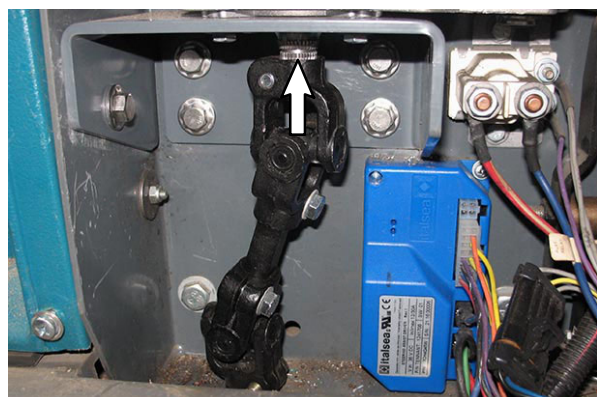

FIG. 42
47. Install the lower power steering shaft (13) onto the bottom power steering motor (10) shaft. (Fig. 42)